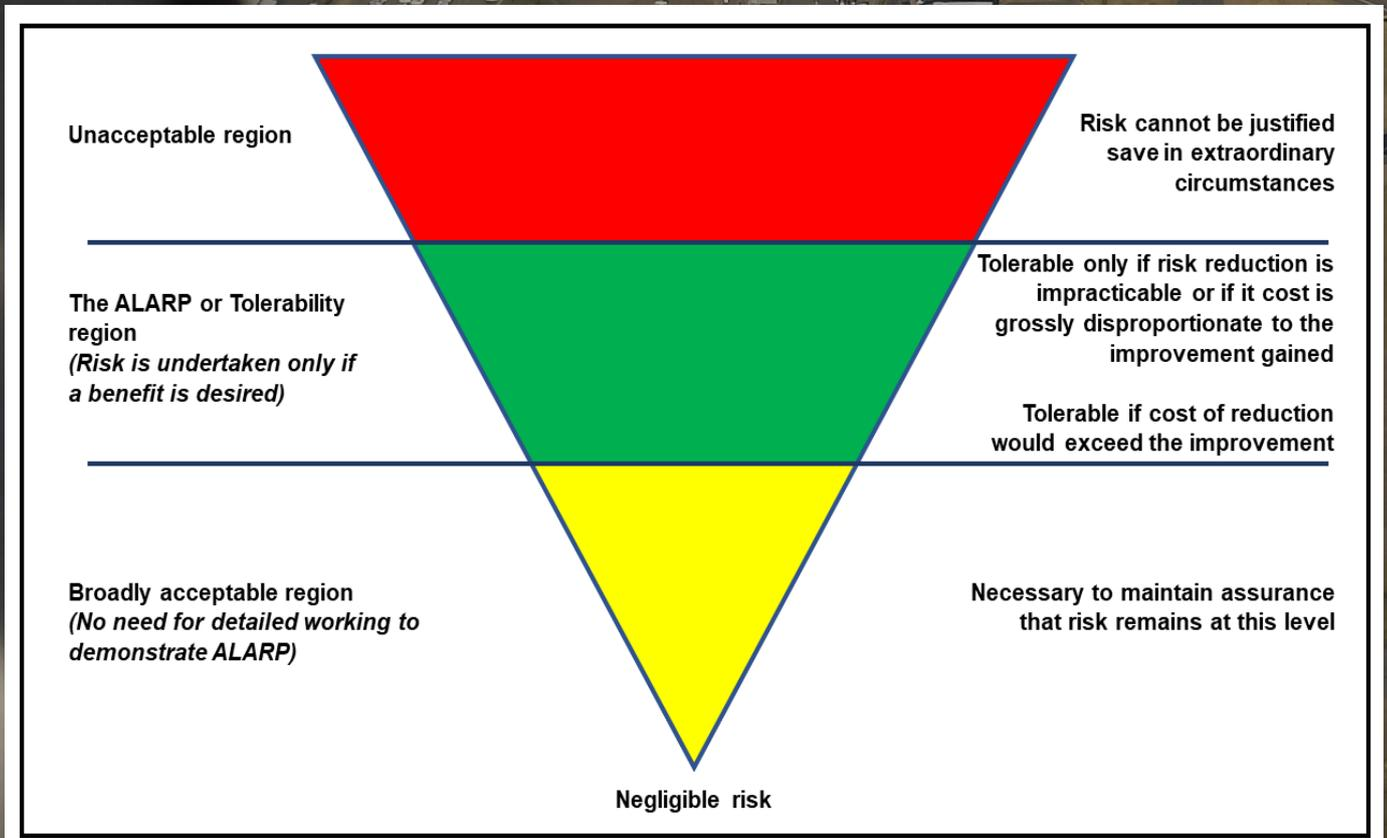

Figure 2. 'As Low as Reasonably Practicable'.
4. You have a legal duty to drive down all hazards until they are 'As Low As Reasonably Practicable' (ALARP) – see Figure 2. For a small organisation, the boundaries can be set pragmatically – you set out your arguments as to why the steps you have taken have reduced that hazard until it is as low as reasonably practicable. For a larger organisation, however, a quantitative approach is needed, and the bounds set by Eurocontrol (upper bound at 2 x Target Level of Safety, lower bound at 0.02 x TLS) may provide a guide.